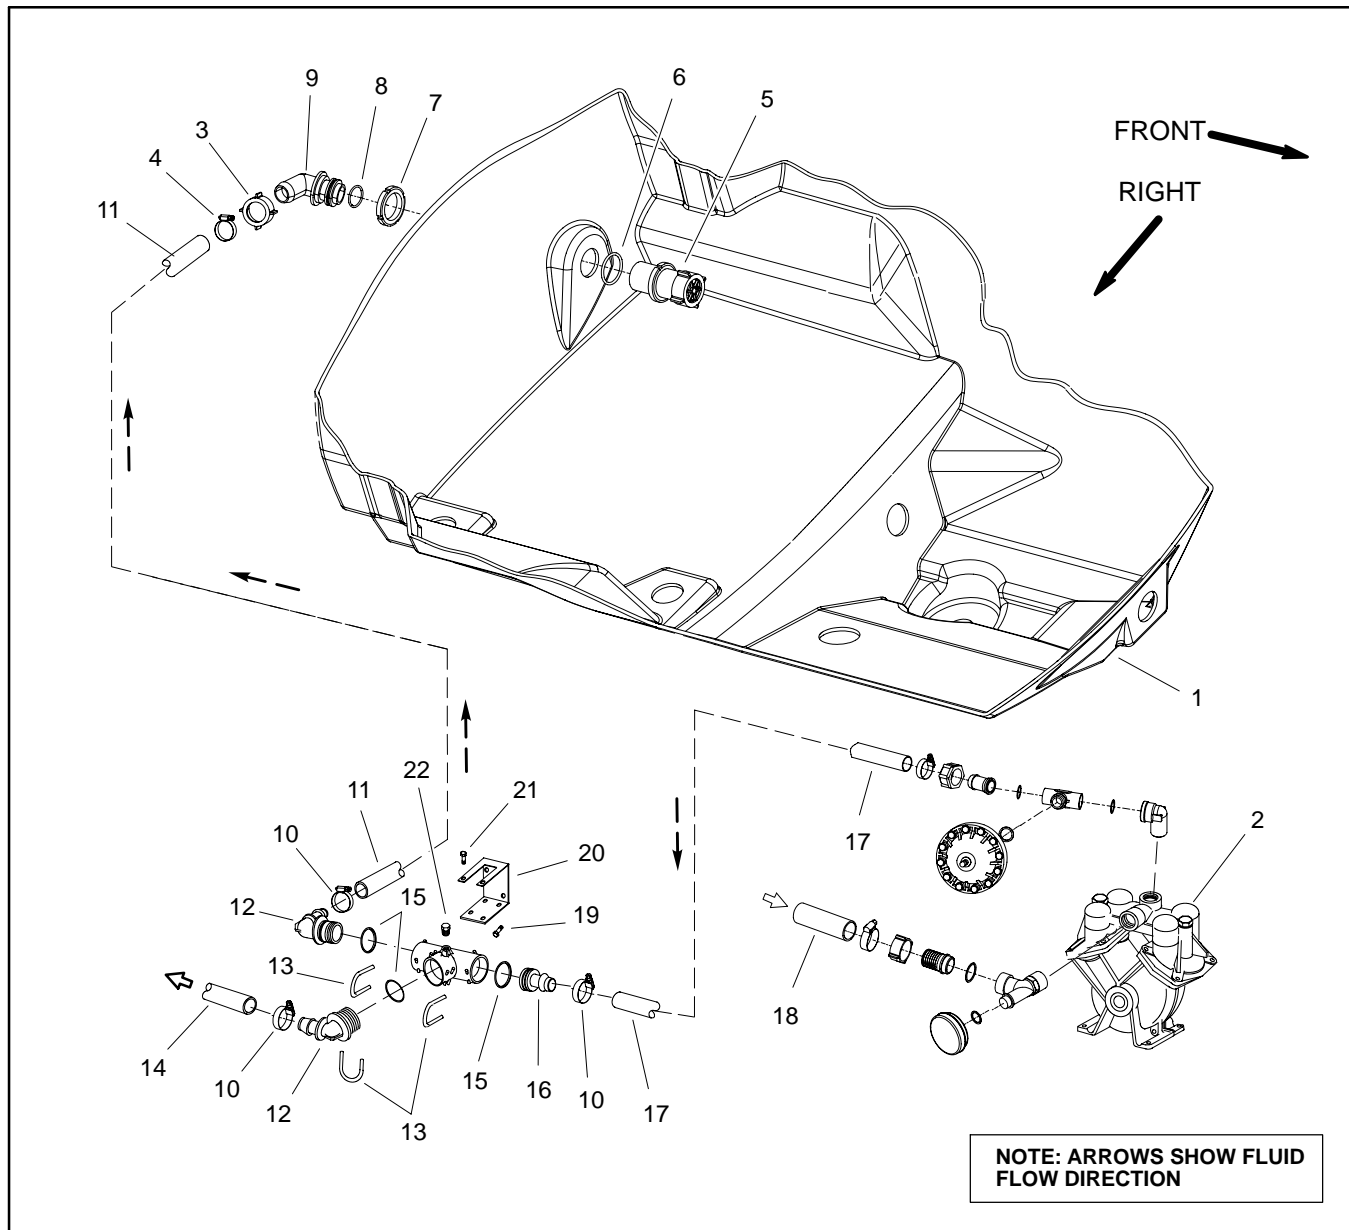

Figure 21
Removal (Fig. 21)
4. Remove pressure relief valve from spray tank using Figures 21 and 22 as guides. Discard all removed O-rings and gaskets.
Assembly (Fig. 21)
2. Install pressure relief valve using Figures 21 and 22 as guides. Replace all removed O-rings and gaskets.